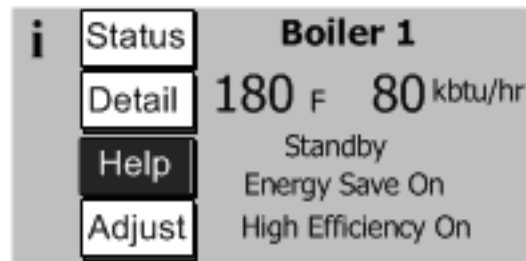

Figure 11.2c: Home Screen with Active Fault
13. If there is a problem that appears before the first try for ignition, or if the boiler fails to light after six tries for ignition, the blinking “HELP” highlighted on the Home screen (Figure 11.2c). Touching this “HELP” button will take the user to the Diagnostics menu where the cause of the problem can usually be found by pressing the flashing button on each successive screen.